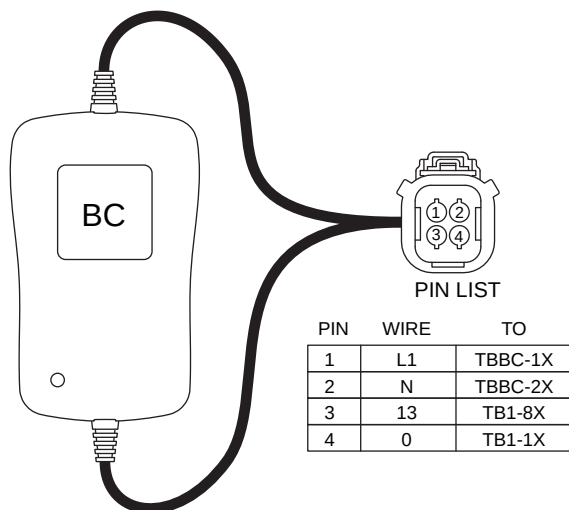

Figure 28. Battery Charger Connector Pin Numbers
3. Connect one meter test lead to Pin 1 on the female side of the battery charger connector harness and connect the other meter test lead to Pin 2 on the female side of the battery charger connector. Measure and record the voltage (see Figure 28).